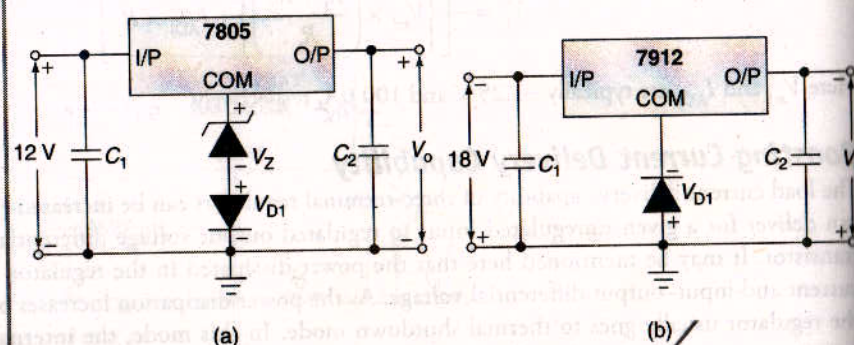

Figure 14.42 Example 14.14.
Refer to the three-terminal regulator circuits of Figures 14.42(a) and (b). Determine the regulated output voltages in the two cases given that  $V_Z = 3.3\text{ V}$  and  $V_{D1} = 0.7\text{ V}$ .
- For the circuit of Figure 14.42(a)
- For the circuit of Figure 14.42(b)